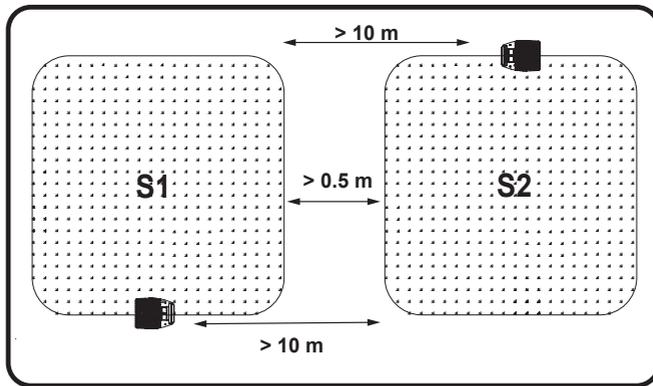

Fig. 28
- To change the signal, press the signal switch button (17) on the charging station (12) and then dock the machine properly to the charging station (17) and wait for 5 seconds. The machine changes the signal automatically (Fig. 28).